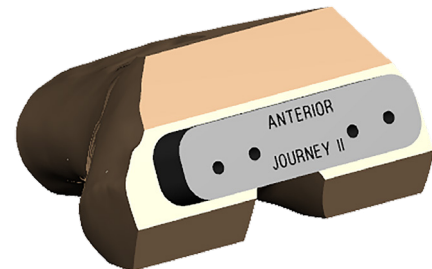

Figure 111
1. Attach the downsizing drill guide to the cut femur, placing the spikes on the back of the plate into the same location holes used for the A/P cutting block (Figure 111).